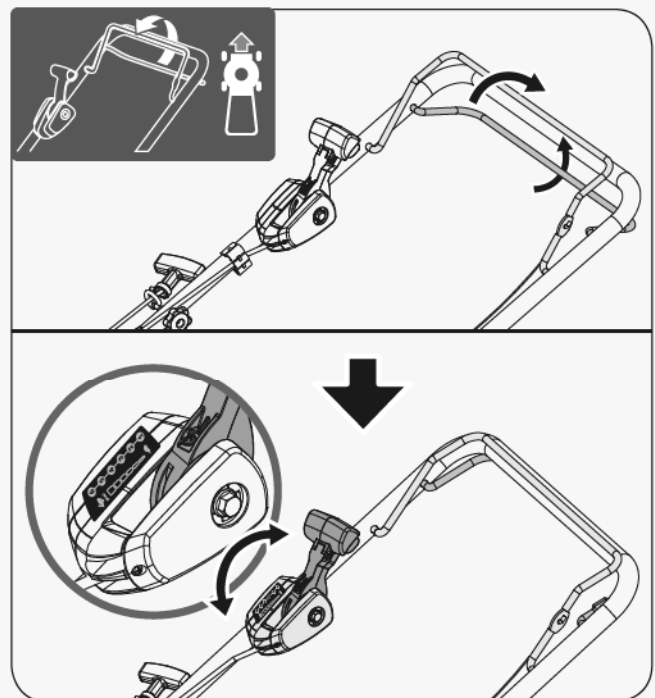

Figure 7
3. Release the drive control lever to disengage the drive, for example when you go near an obstacle. (See Figure 7)